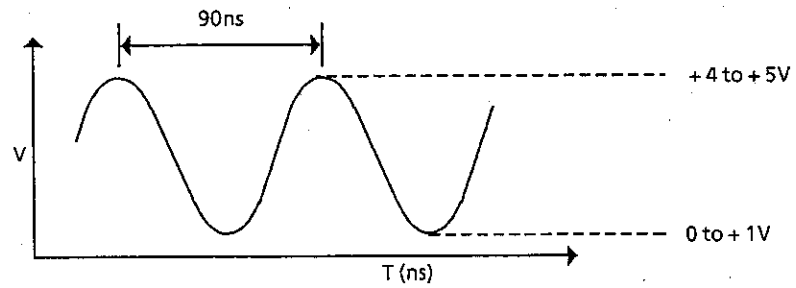

Figure E-3-1
- Is the OSC oscillation waveform as specified in Figure E-3-1?